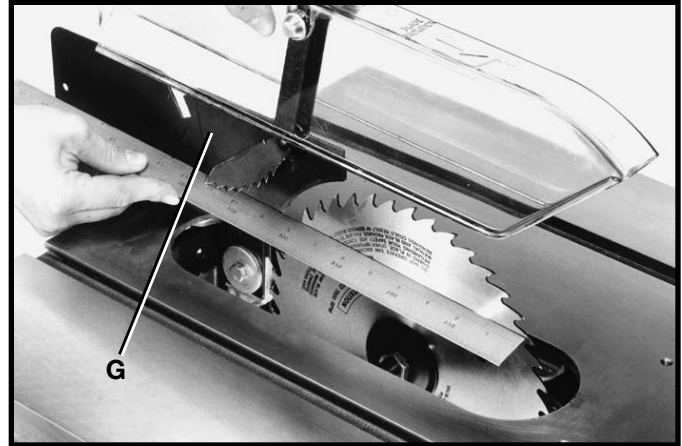
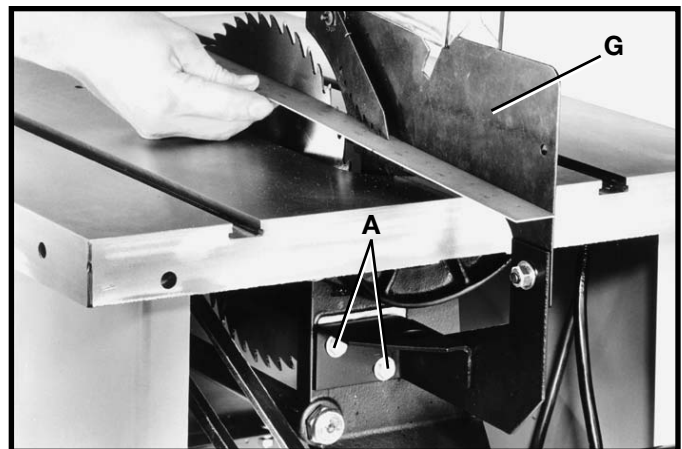

Fig. 36
Fig. 37
10. Use a straight edge to check to see if the saw blade is aligned with the rear of the splitter (G) in Figs. 36 and 37. If alignment is necessary, loosen the screws (A) Fig. 37, align splitter (G) with the saw blade, and tighten two screws (A).